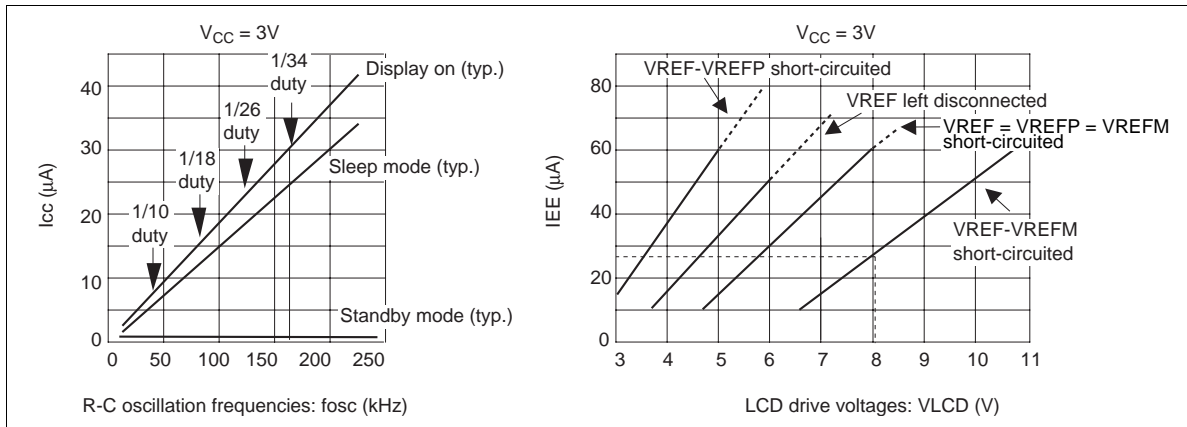

Figure 52 Relationship between the Operation Frequency and Current Consumption
11. The following shows the relationship between the operation frequency (f_{OSC}) and current consumption (I_{CC}) (Figure 52).